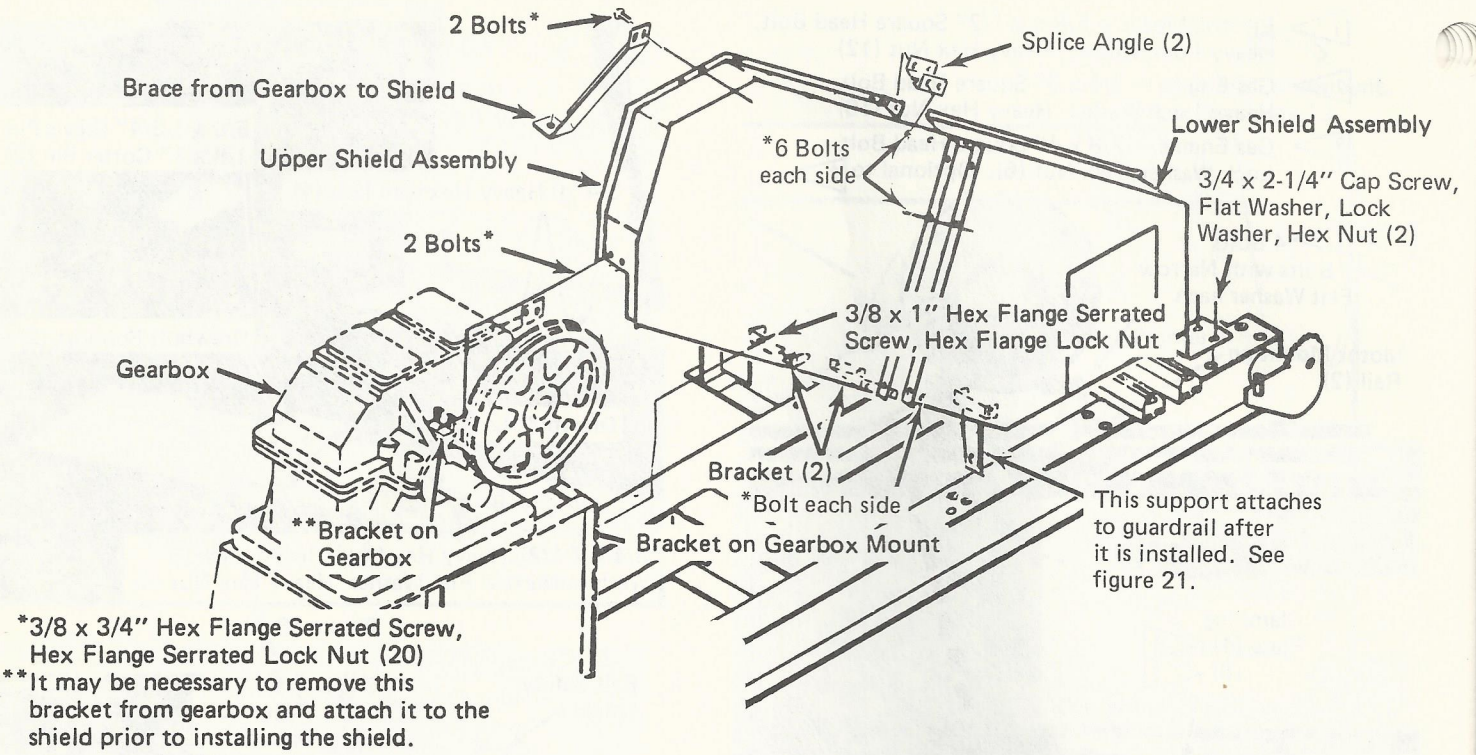

Figure 20
20. Attach the two shield assemblies together with splice angles and six bolts on each side as shown in figure 20. Then remove the three brackets along the bottom edge between the two sides. Also remove adjustable shield and angle along bottom edge of bottom shield assembly.
21. Hoist shield assembly into place over the belts and attach at each end and to brace from gearbox with bolts shown in figure 20. Install all brackets between bottom edges and attach front one to bracket on rear of gearbox mount.